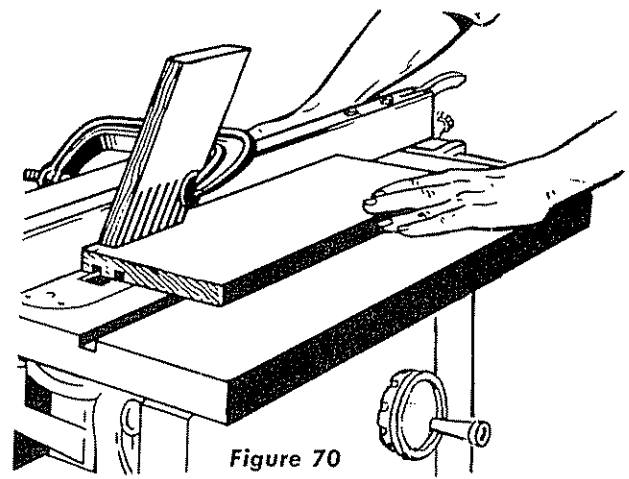
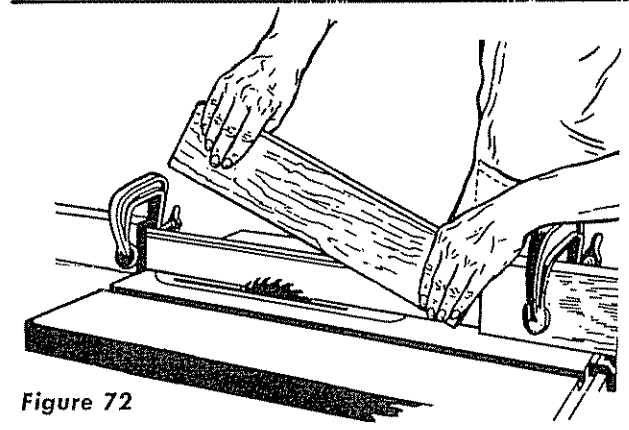

Figure 70
Figure 72
4. Dado head operations are much the same as those with a standard blade. Since the dado head takes a larger bite, the work should be held more firmly. It is a good practice to use a hold-down jig like the one shown in figure 70.
6. When cutting a gain (a groove that is closed at one end) use a stop block to fix the end of the cut. (See figure 70.) To locate the stop, place the work alongside the dado head in position in which it will be when cut is finished. Then rig the stop at the end of the work. When cutting a stopped groove (which is closed at both ends) also use a starting block, as shown in figure 72. This is located in same manner as the stop block.